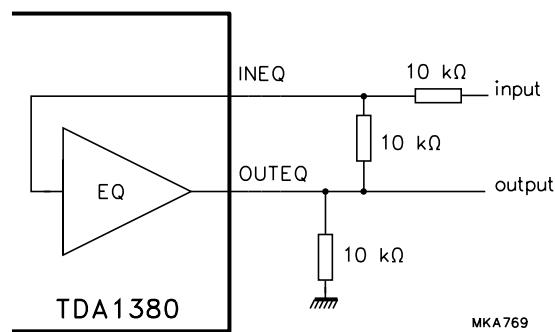

Fig.10 Test circuit of the equalization amplifiers.
11. Closed loop configuration, unity gain, in accordance with Fig.10.